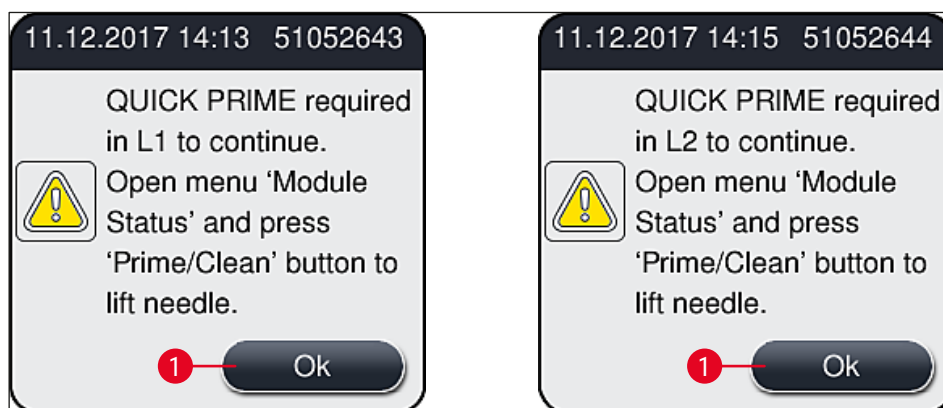

Fig. 51
- ① After completing the initialization phase, the main menu (→ Fig. 19) appears on the screen. and the user is informed (→ Fig. 51) that a **Quick Prime** is required for the coverslip line in use. Acknowledge the messages by pressing **Ok** (→ Fig. 51-1) and follow the instructions that follow (→ P. 118 – 7.3 Preparing the hose system for priming and cleaning).